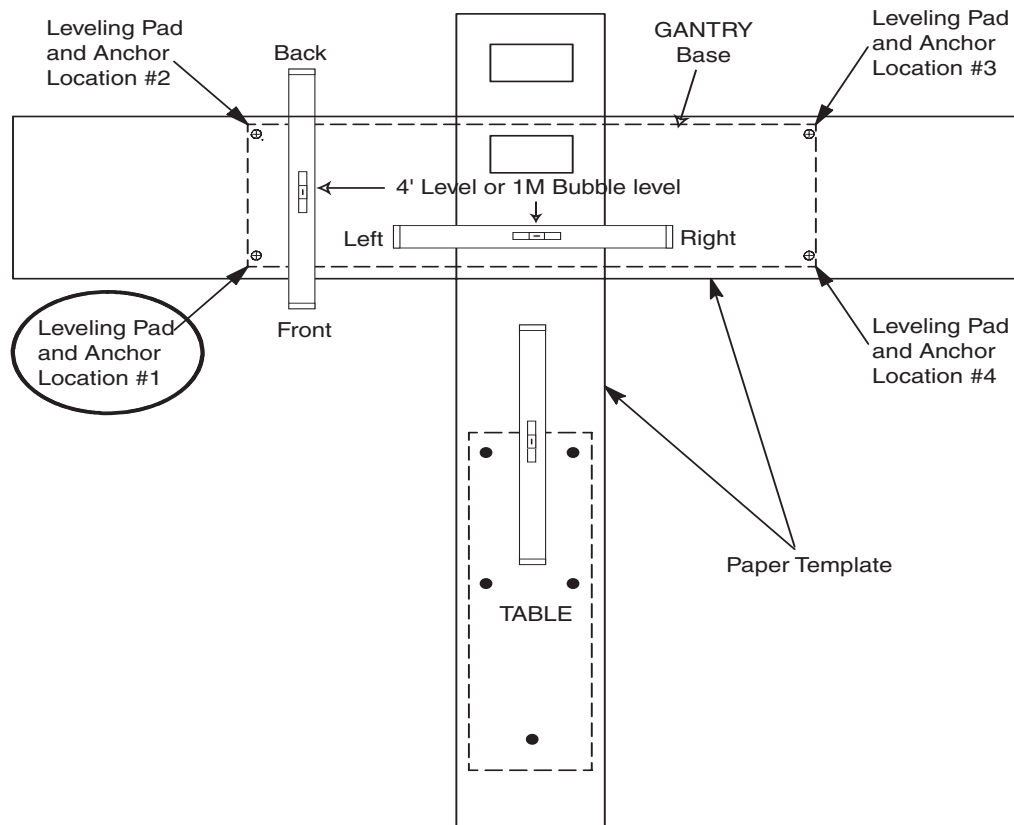

Figure 1-4 Gantry and Table Paper Templates
- 5.) Now, check the level of the floor (See Figure 1-4) across the templates.